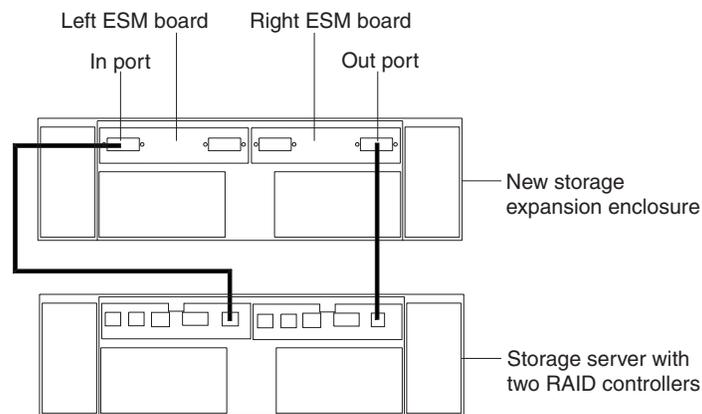

Figure 41. Adding a storage expansion enclosure
2. Use the following procedure and Figure 41 to connect a single storage expansion enclosure to the storage server: